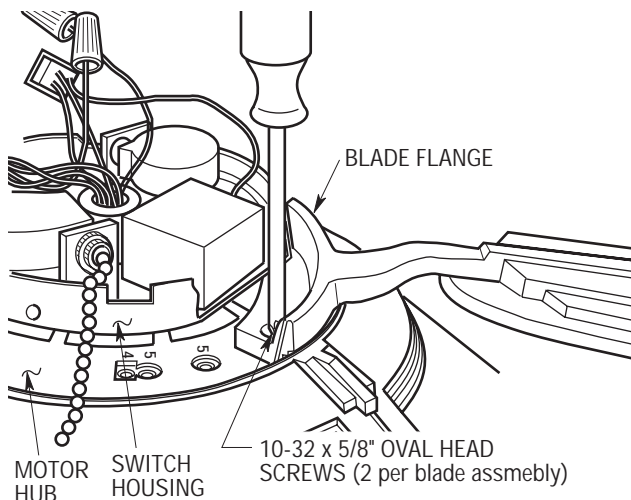

Figure 6
- 12. Attach one blade assembly to the motor hub using two 10-32 x 5/8" oval head screws (supplied) (Figure 6). Do not tighten completely at this time. Install four remaining blade assemblies in the same way. Gently snug all flange screws to the motor hub, working around the hub in a clockwise sequence. Next, securely tighten all flange screws, again working in a clockwise sequence. Failure to follow this procedure could result in fan wobble. This completes the blade installation.